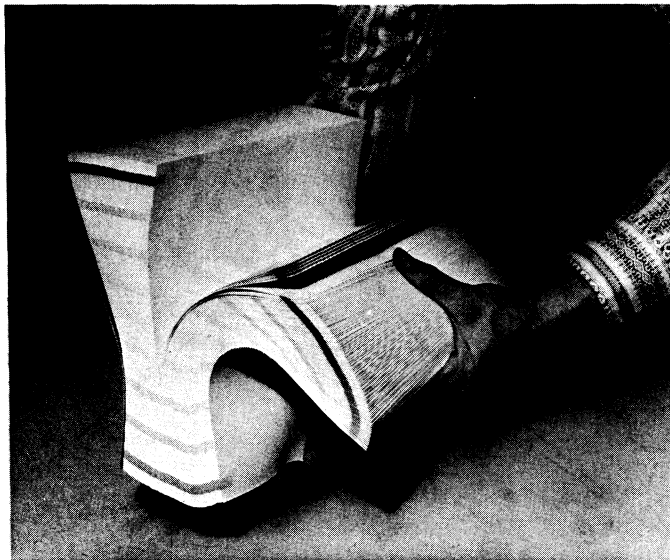

Figure 3-10 'Fan' the Paper to Loosen the Sheets
3. Remove a pack of fanfold paper from its carton. "Break" and "fan" the paper from both ends to loosen the stack before installing in the machine (Figure 3-10).